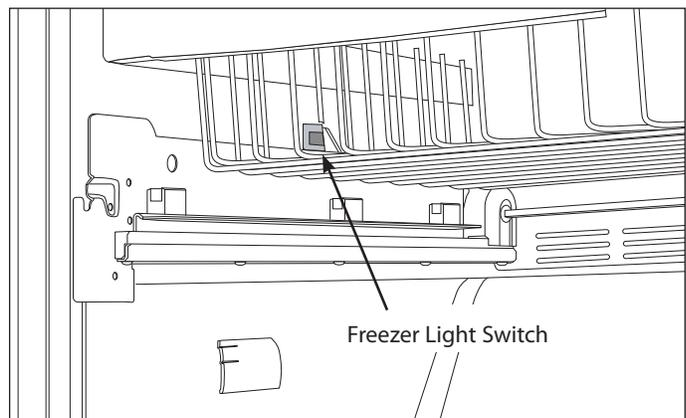

Figure 6-37.
3. Using a putty knife inserted between the liner and switch, push down and out on the top of the switch until it clears the liner. (See Figure 6-37)